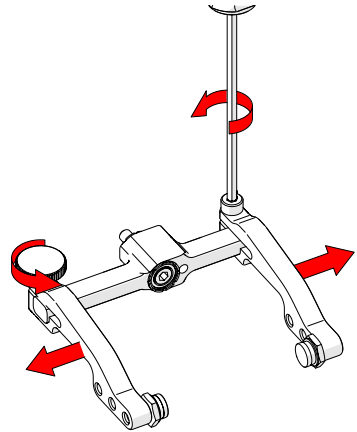

Fig. 129 - Remove probe holder arms
3. Loosen the probe holder arm adjustment knob and the arm clamp screw. Slide the probe holder arms off the yoke (Fig. 129).